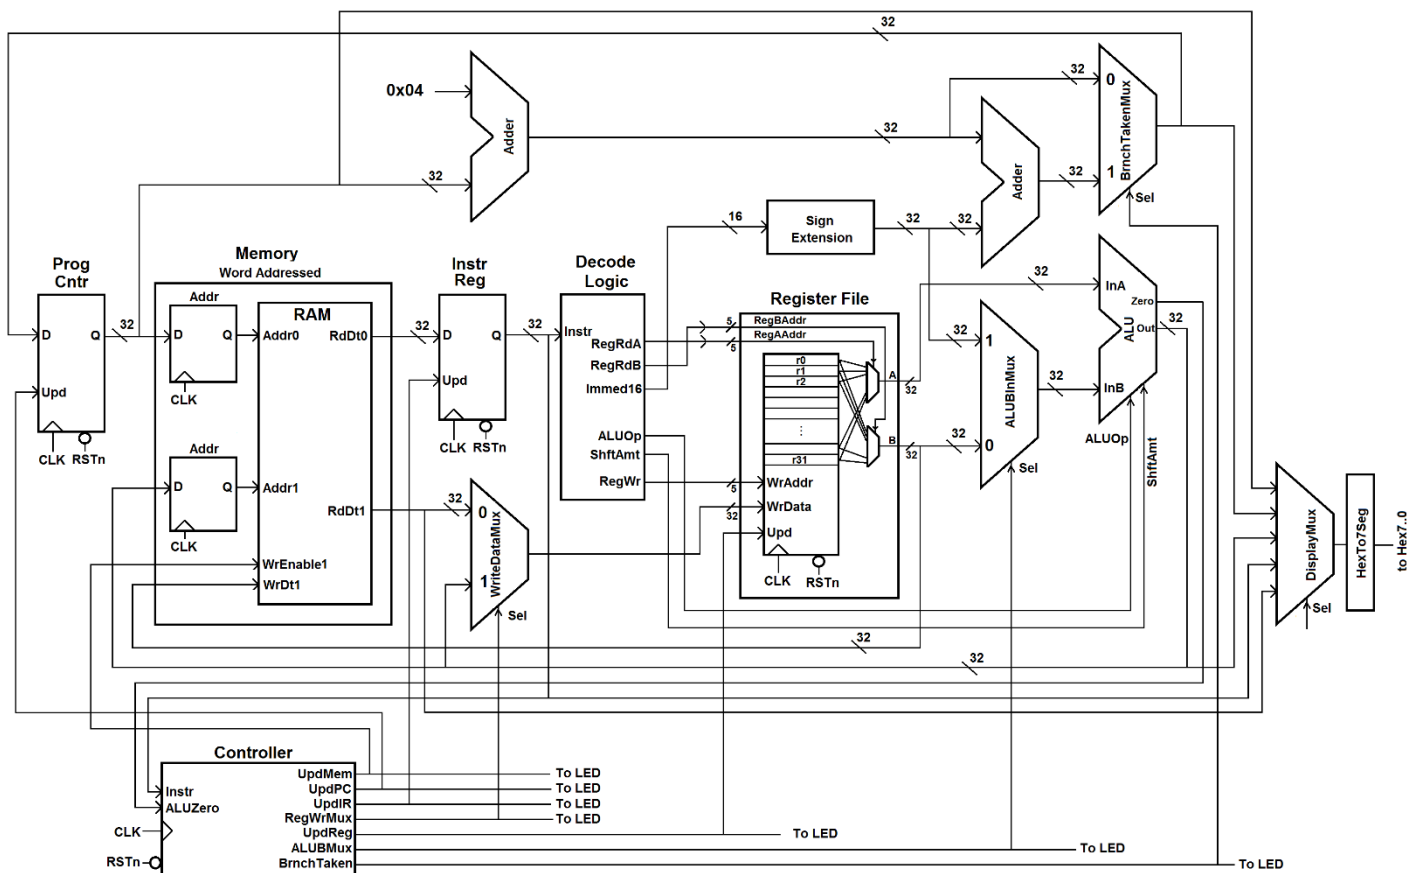

Figure 1. Processor Block Diagram
(Note that the “DisplayMux” in Figure 1 shows only five signals; the diagram is complex enough with these!)
- Map the outputs of your state machine to the green LEDs on the DE2 board, as shown in Figure 1. This will allow you to observe which control signals are active at various points in the program execution.